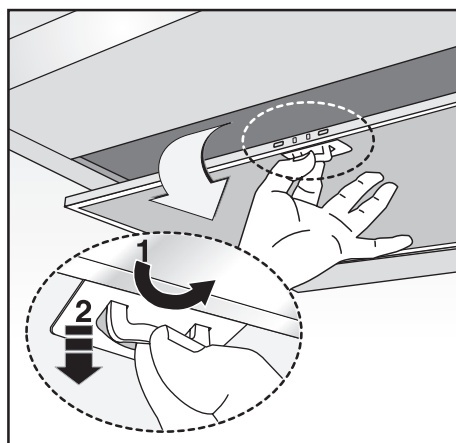

Fig.5
- If the hob is electric, gas, or induction, the minimum distance between the same and the lower part of the hood must be at least **65 cm**. If a connection tube composed of two parts is used, the upper part must be placed outside the lower part. Do not connect the cooker hood exhaust to the same conductor used to circulate hot air or for evacuating fumes from other appliances generated by other than an electrical source. Before proceeding with the assembly operations, remove the anti-grease filter(s) (Fig.5) so that the unit is easier to handle. In the case of assembly of the appliance in the suction version prepare the hole for evacuation of the air.